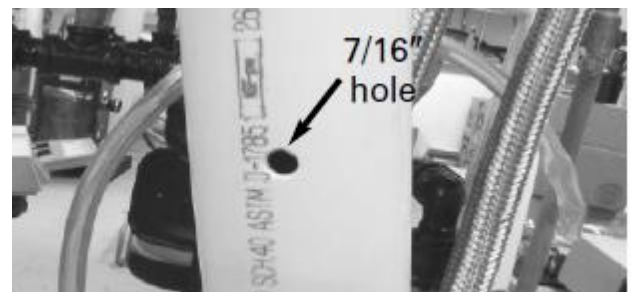

Figure 16 – Hole to be Used as Test Port
1. Drill a 7/16" hole into the exhaust piping one (1) foot from the heater to be used as a test port for the gas tester (CO Meter). See Figure 16.